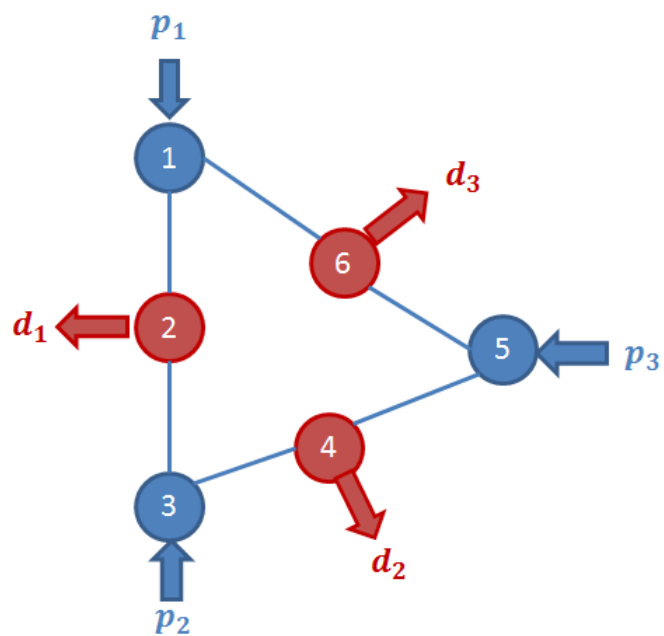

Figure 2: Electric network for Question 3.
4. Consider the following electric power network shown in Figure 2. This network is taken from a real-world electric power system. Electricity generators are located at nodes 1, 3, and 5 and producing p_1, p_2, p_3 amounts of electricity, respectively. Electricity loads are located at nodes 2, 4, and 6 and are consuming d_1, d_2, d_3 amounts of electricity, respectively.